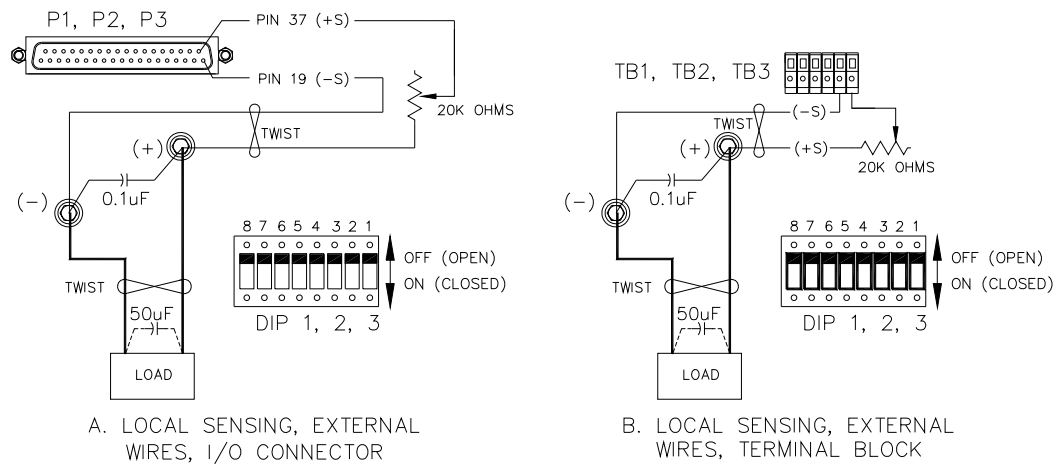

FIGURE 3-7. OVP ADJUSTMENT SETUP
3. With source power removed, connect load as shown in Figure 3-7 for local sensing and connect a 20k ohm potentiometer between pin 37 and the output bus bar; adjust the pot for minimum resistance.